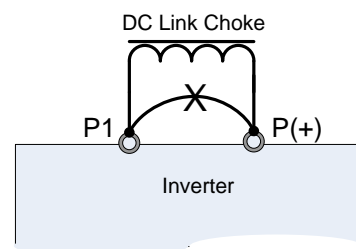

Fig. 2-3-3 Remove Jumper
- Before connecting a DC link choke to these terminals, remove the factory-installed jumper. (Fig. 2-3-3)